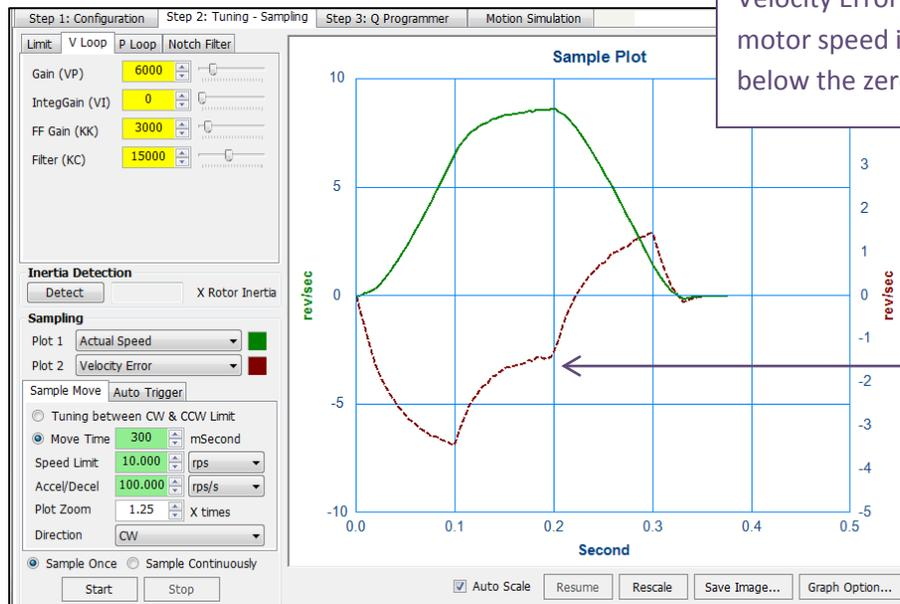

Figure 3a: Actual Speed & Velocity Error plotted; FF Gain (KK) being adjusted
- Run sample moves while increasing FF Gain (KK) first (see **Fig. 3a**)